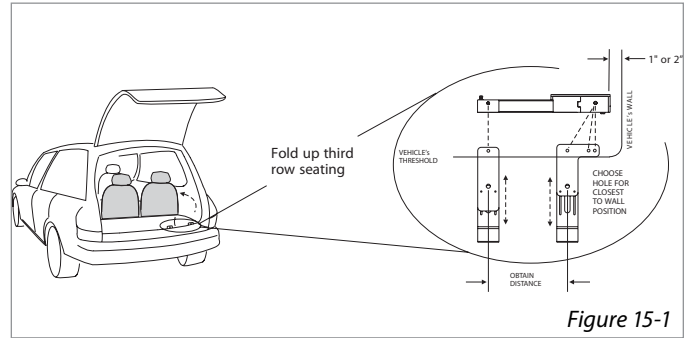

Figure 15-1
- Place vertical joiners on back wall** of seating well corner. [Figure 15-1] Use base as template for position.